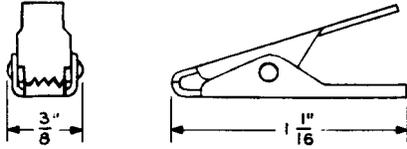

Fig. 14—KS-6780 Connecting Clip
**2.23 KS-6780:** The KS-6780 connecting clip tool (Fig. 14) is for general use on test cords when the clip is to be soldered to the cord. The jaws can be insulated by means of a 108 cord tip (insulating tubing).